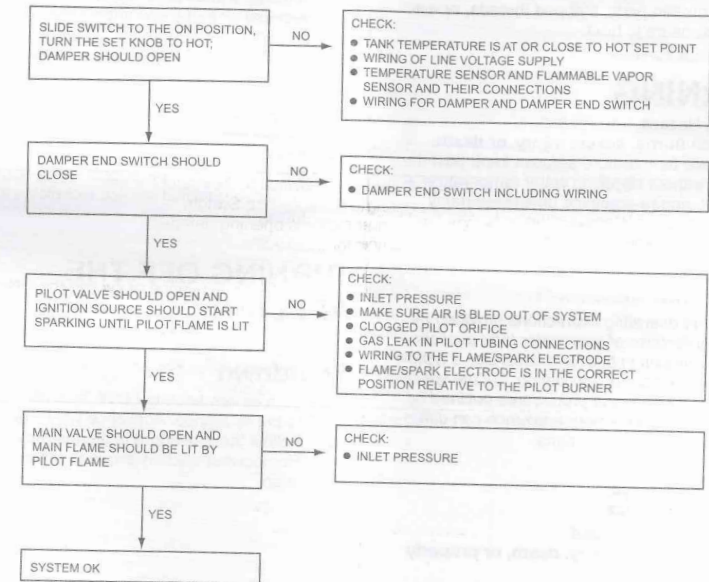

Fig. 9. Troubleshooting without status LED.
4. If an unexpected event is observed, use the Troubleshooting Guide, Fig. 9.